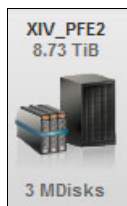

Figure 2-16 XIV MDisks that are detected by the SAN Volume Controller
2. List the newly detected MDisks, shown in Figure 2-16 on page 25 and Example 2-12 on page 25, where there are three free MDisks. They are 2.91 TiB (3201 GB).